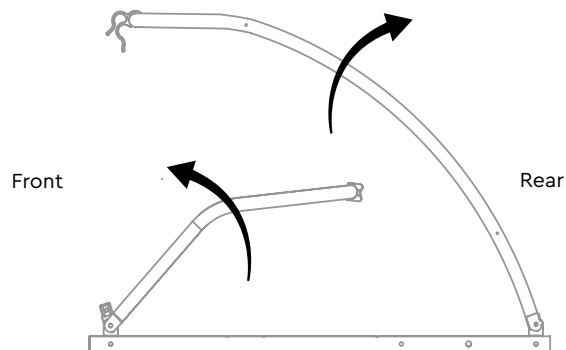

Figure 1
1. Raise front frame tube and rear frame tube from inside the trailer until they sit together on the plastic saddles (Figure 1).